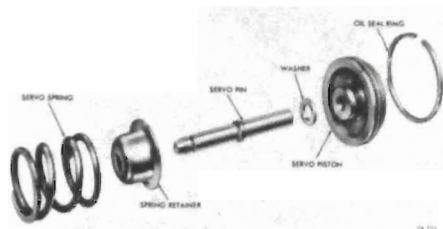

Figure 76-771
1. Install front servo spring and retainer into the transmission case. See Figure 76-771.
piston if removed, and install on apply pin so that identification numbers on shoulders are positioned toward bottom pan. See Figure 76-771.